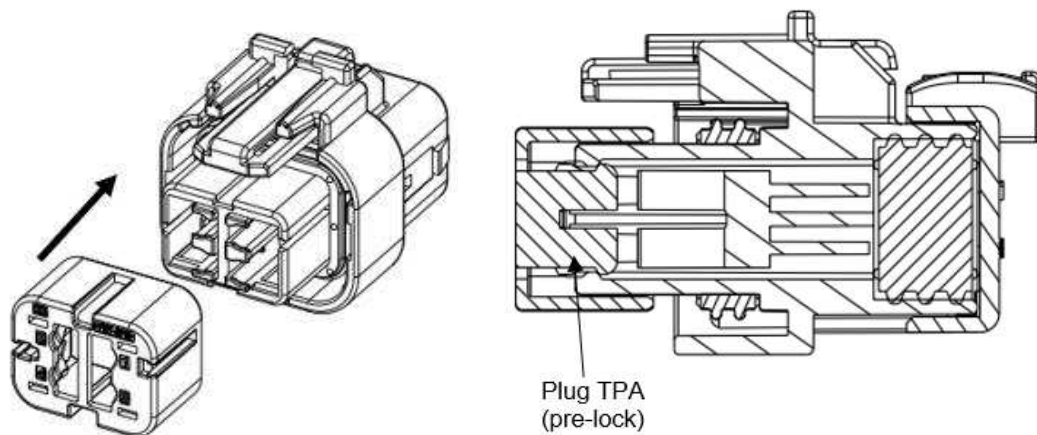

Figure 7
- i. Insert TPA from front end as shown in figure and push the TPA inside the housing until hear the "Click" sound. Keep the TPA in pre-lock position as shown in Figure 7.